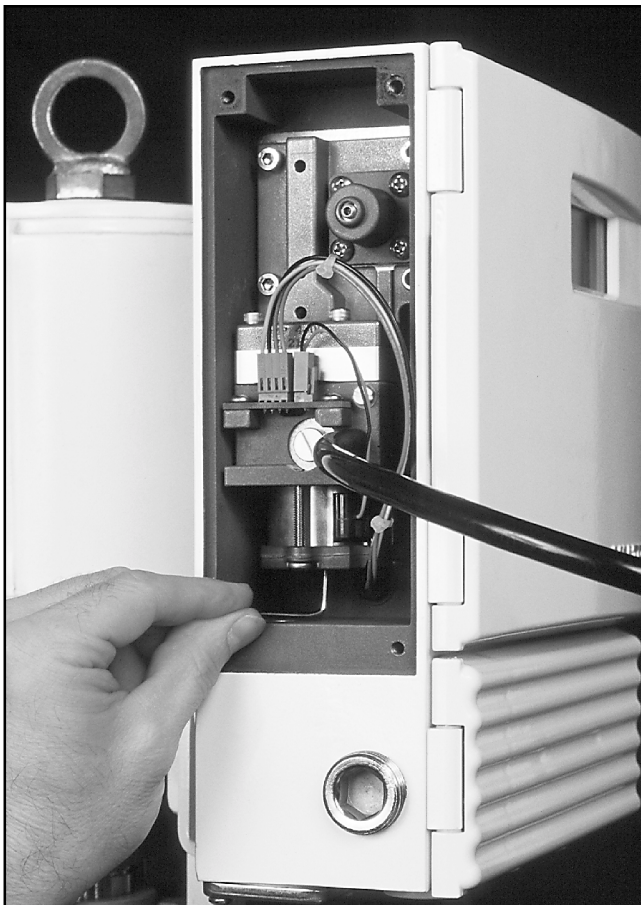

Figure 13: Setting Modulator Pressure
7. Set the Modulator pressure to 2 psig, plus or minus 0.25 psig by adjusting the set screw on the bottom of the modulator cap (refer to Figure 13).